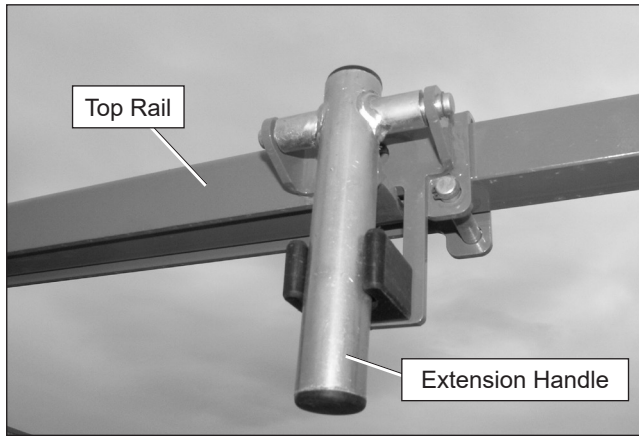

Figure 8.18 – Platform Extension Handle
1. Inspect the extension handles (refer to Figure 8.18) on each side of the platform to ensure they release to extend the platform.
7. Fully lower the handles and ensure they are locked in their stowed position (refer to Figure 8.18).